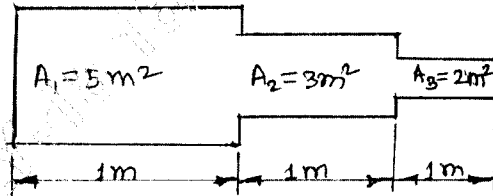

Fig.Q8(b)
- b. For the smooth pipe of variable c/s shown in Fig.Q8(b). Determine the potential at the junction the velocities in each section of pipe and the volumetric flow rate. The potential at the left end is $P_1 = 12 \text{ m}^2/\text{S}$ and that at right end is $P_4 = 3 \text{ m}^2/\text{S}$. Take $K_x = 1$. (10 Marks)